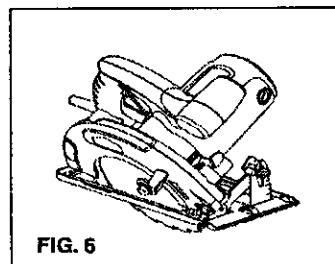

FIG. 6
2. Tilt the body of the saw (Fig. 6) until the required angle is reached by using the scale on the 0°- 45° bevel gauge.